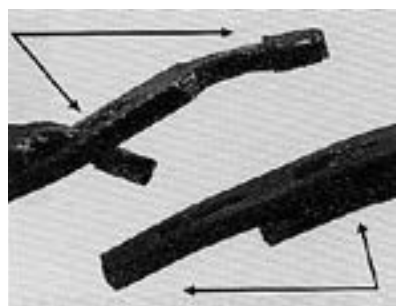

FIGURE 34. Measuring the V-Belt
- Pull belt tight around sheaves to check hand tight length, overlapping the last two tabs with two holes in matching links as shown in **FIGURE 34**.